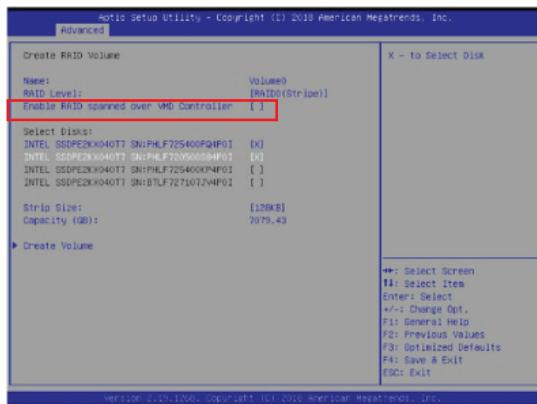

Figure 6-7. Created Volume *without* enabling RAID spanned over VMD controller
8. Switch to **Advanced > Intel(R) Virtual RAID on CPU > All Intel VMD Controllers > Create RAID Volume.**
11. If cross-controller RAID is required, select **Enable RAID spanned over VMD Controller** as shown in Figure 6-7.